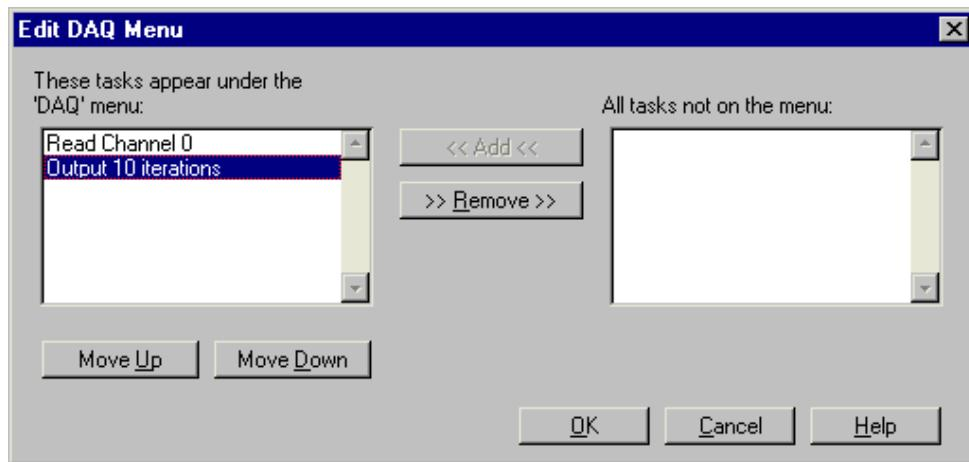

Figure 2-7. Adding Tasks to the DAQ Menu
2. Click on the **Edit Menu** button to display the Edit DAQ Menu dialog box, shown in Figure 2-7.